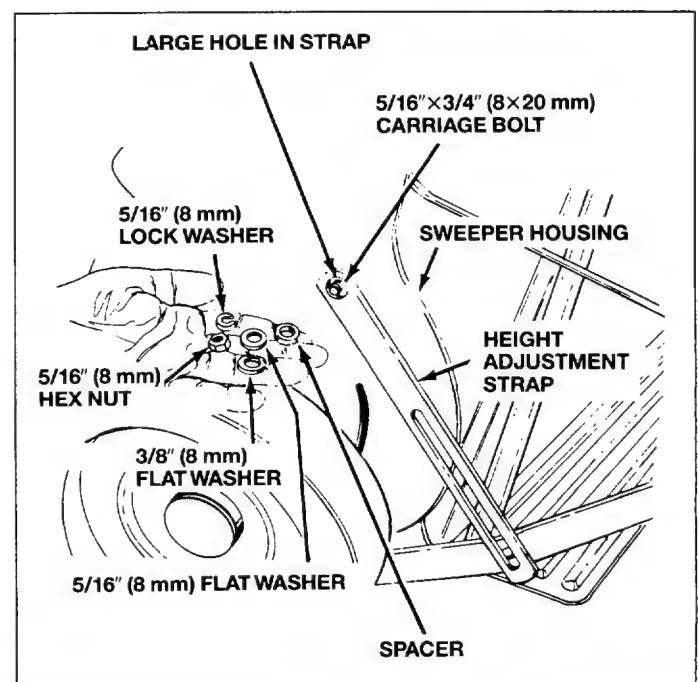

Fig. 9
9. Assemble the height adjustment strap (hole end) to the sweeper housing. See figure 9. Place $5/16" \times 3/4"$ (8×20 mm) carriage bolt through the square hole in right hand side of sweeper housing. Next place $3/8"$ (10 mm) flat washer next to housing, then spacer into large hole on strap and over end of carriage bolt. Secure with $5/16"$ (8 mm) flat washer, $5/16"$ (8 mm) lock washer and $5/16"$ (8 mm) hex nut. See figure 9.